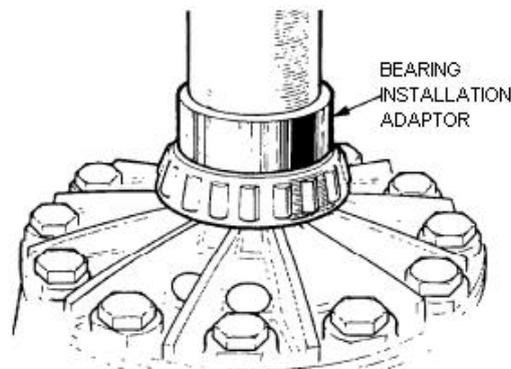

Figure 215 Installing the Differential Bearing Cones
- h. Using the bearing installation adaptor (Table 3, Serial 54) and a suitable press, install the bearing cones onto the differential assembly (Figure 215). Do not install the shims at this stage.